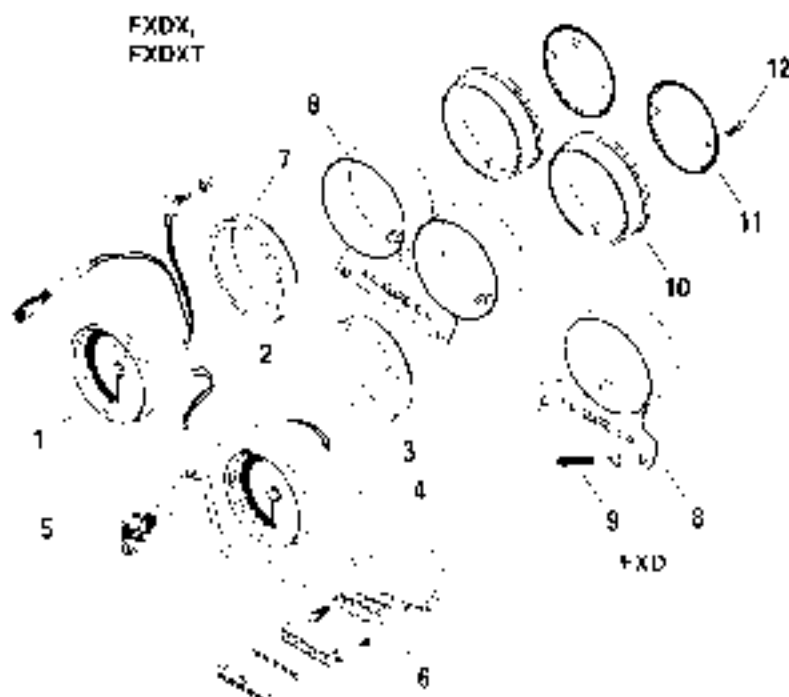

Figure 8-57. Instrumentation: FXD, FXDX, FXDXT
- 1 See Figure 8-57. Remove two screws (12) and backplate (11).
- 2 Depress tab and remove 12-pin connector (2) (39) from back of speedometer.
- 3 Push speedometer (1) through front of housing.
- 4 Remove front gasket (7) from speedometer.
- 2 Depress tab and remove 6-place connector (3) (108) behind headlamp.
- 3 Push tachometer (4) through front of housing. Remove screw holding harness in place.
- 1 See Figure 8-57. Install front gasket (7) to speedometer and slide speedometer into housing. Press firmly until fully seated.
- 2 Connect 12 place connector (2) (39) to back of speedometer.
- 3 Route wires through slot in back of instrument housing. Install gasket (10) on back of housing. Install backplate (11) with two screws (12).
- 1 See Figure 8-57. Install front gasket to tachometer and slide tachometer into housing. Press firmly until sealed.
- 2 Connect 6 place connector (108) to back of tachometer. Install harness to tachometer with TORX screw.